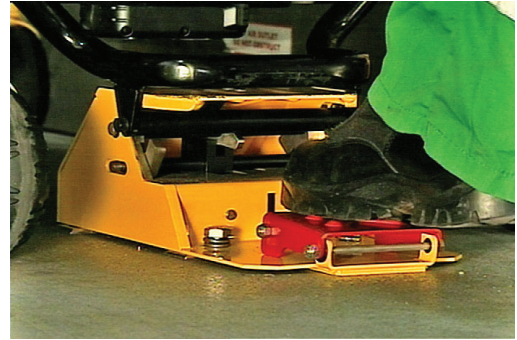

Figure 16 – Remove the cot from the vehicle
2. Remove the cot from the fastener and roll the cot out of the vehicle patient compartment (Figure 16).